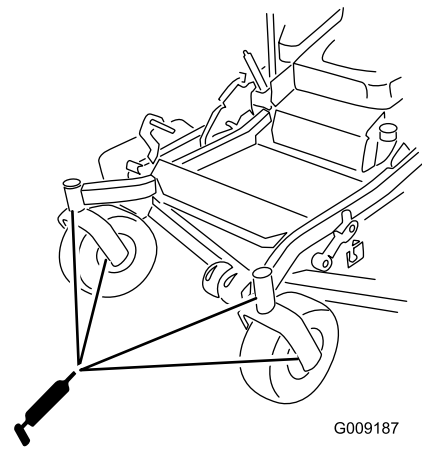

Figure 43
- Remove the grease fitting in the hole. Install the hex plug and dust cap (Figure 43).